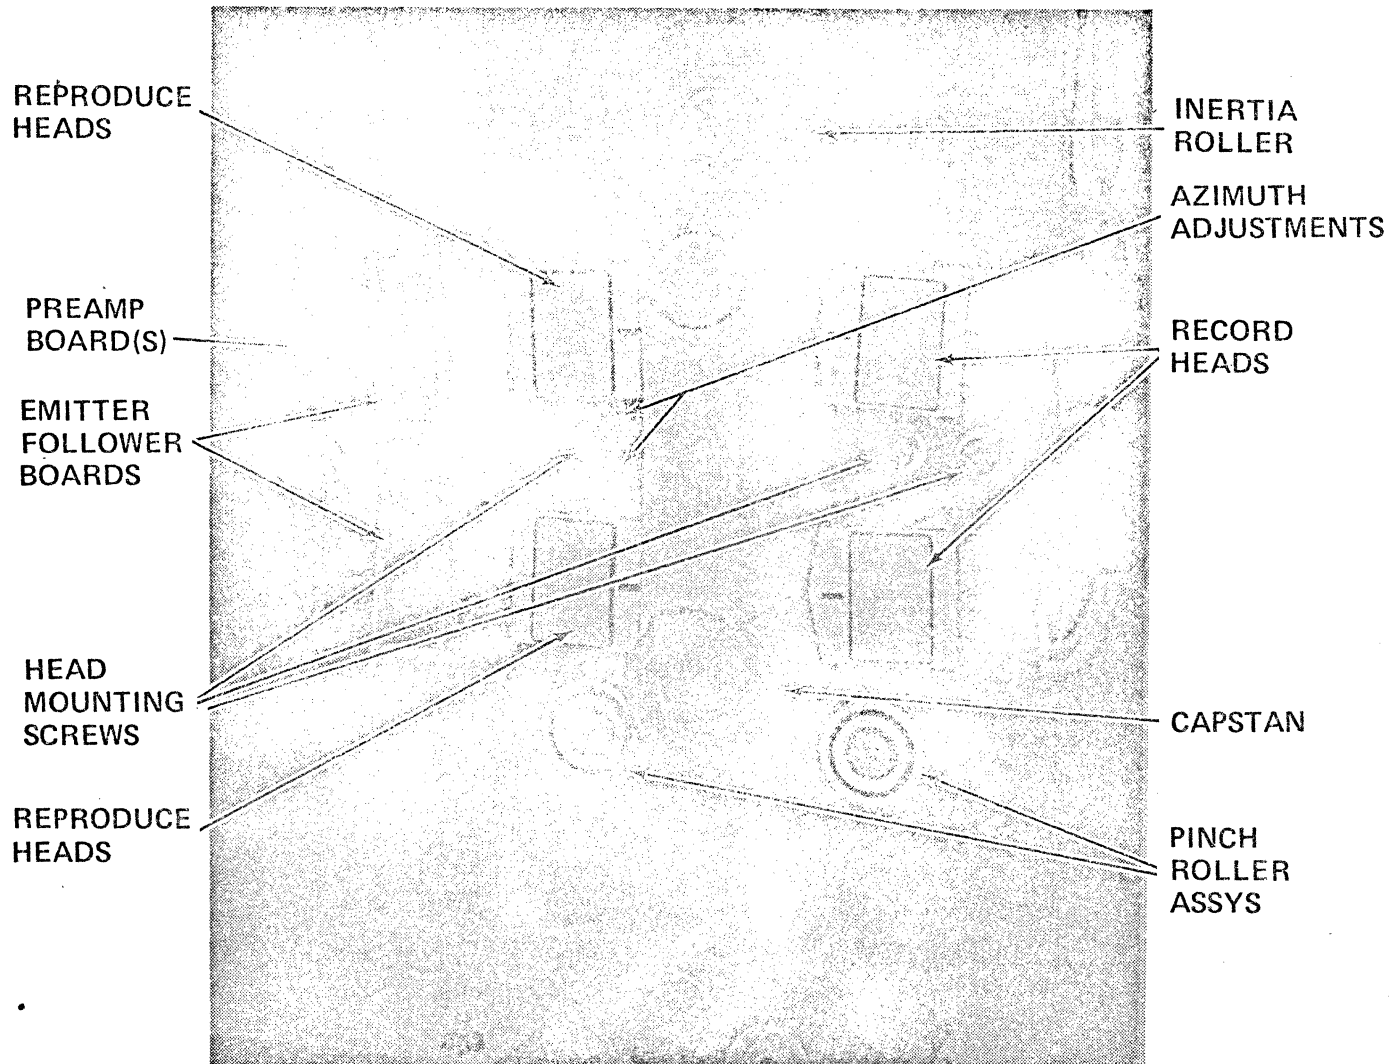

Figure 14. Tape Head Mounting Details
g. RECORD AND REPRODUCE HEAD ASSEMBLIES REPLACEMENT (refer to figure 14)